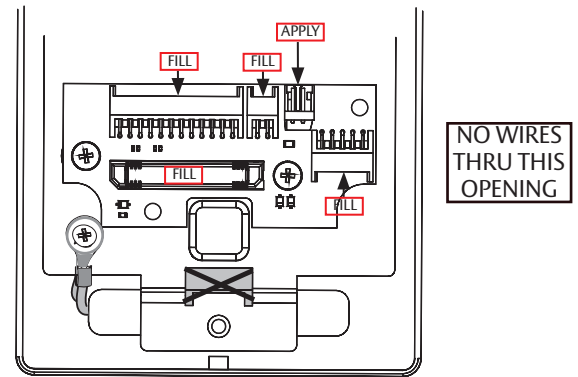

Figure 6-3A
2. Ensure all connector pins and contacts (Figure 6-3A) are covered. (Do not overfill or over-apply**)
IMPORTANT: Do not run wires through bottom flange hole in plate - it will damage wires and controller connector. Route wires around flange (See Figures 6-3A - 6-3B).